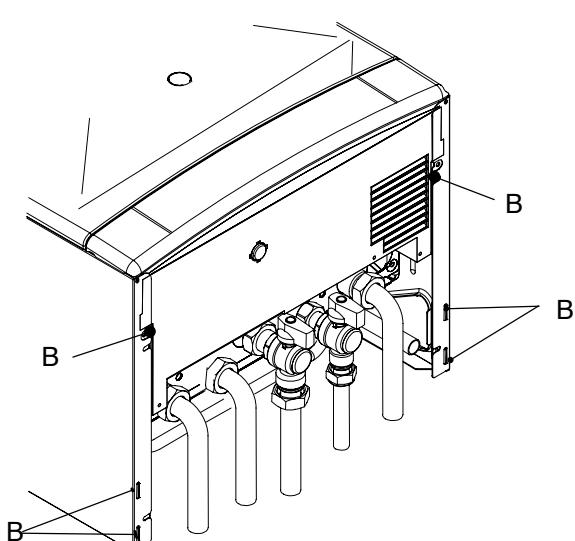

Fig. 8.2
3. Loosen the screws B. Bring the bottom of the panels away from the boiler and lift them, freeing them from the top hooks (Fig. 8.2).